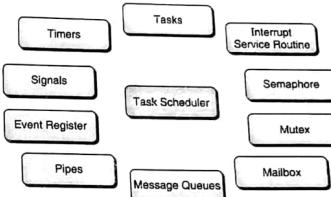

Fig. 13.2.1 : Objects of a kernel
- Fig. 13.2.1 shows the different objects of a kernel.